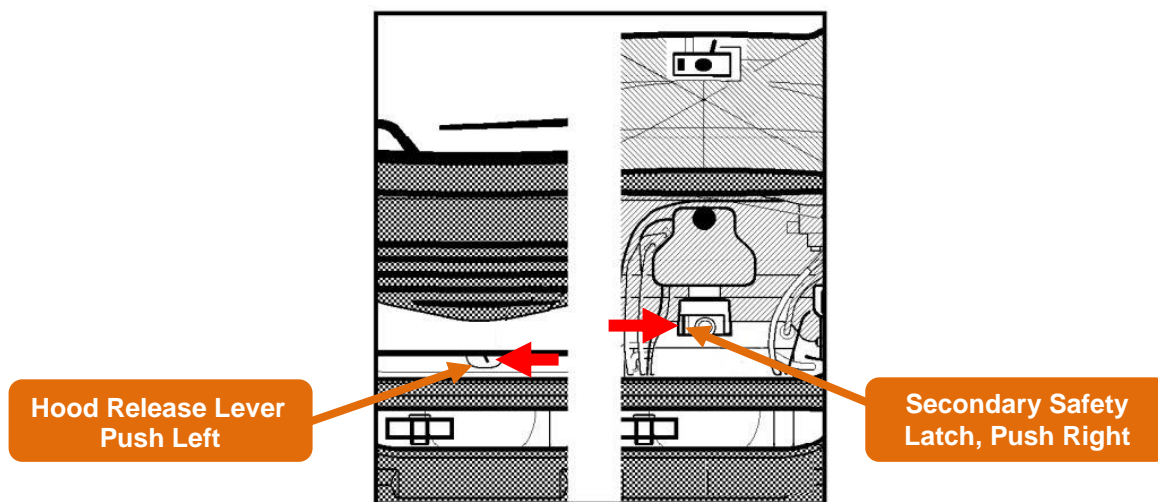

Figure 10.12
- ✓ Open the hood as outlined in this section (Figure 10.12).
- Release the Secondary Safety Latch by reaching up under the hood and press the secondary latch to the right. (Figure 10.12)